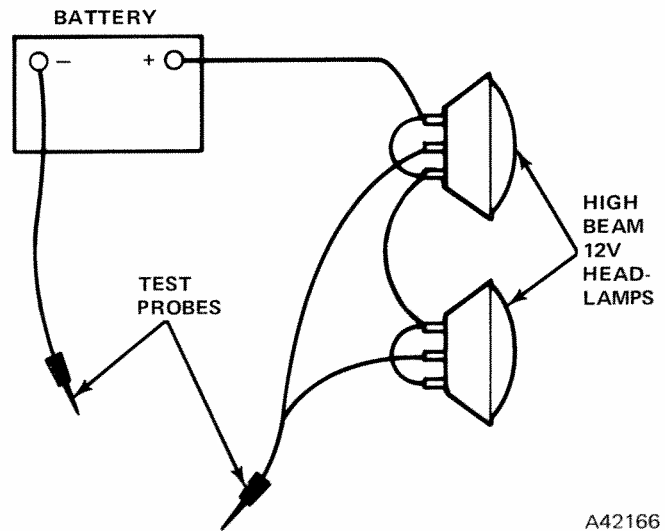
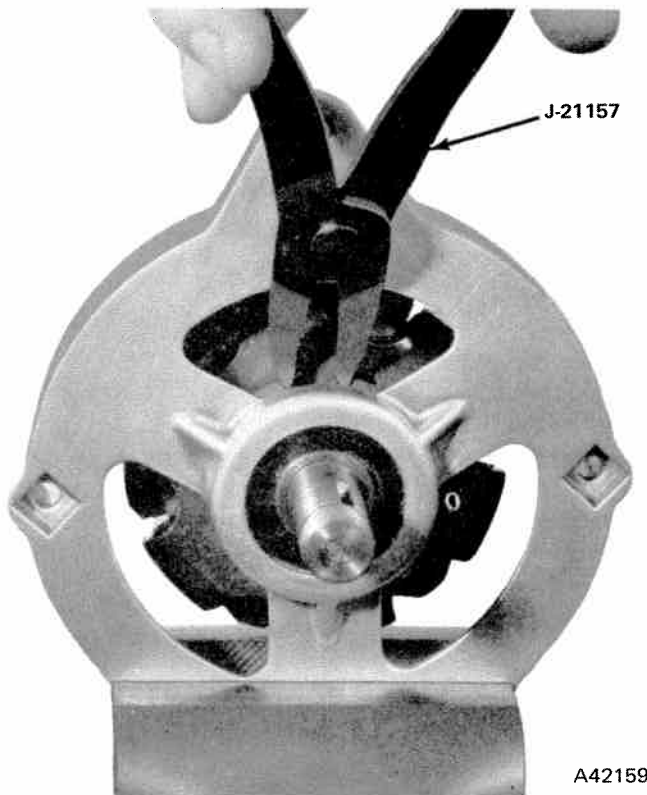

Fig. 3-27 Rectifier Heavy Load Tester
Fig. 3-28 Removing Split Ring Washer
(1) Attach a needle-nose pliers or some other type of heat absorber between diode and diode wire solder joint.
(2) Unsolder wire(s) from each diode. Use a test apparatus as shown in figure 3-27. This apparatus places about a 15-ampere load on diode.
(3) Attach tester to a fully charged 12-volt battery.
(4) Connect one test lead to diode heat sink.
(5) Connect remaining test lead to diode lead (fig. 3-28). Connect test leads so that test lamp lights.
(6) Maintain test load on diode for one to three minutes. If light flickers or goes out, diode is defective.
(7) After one to three minutes with test lamp on, immediately reverse leads. If test lamp lights, diode is defective.
(8) Test each remaining diode in the same manner.
ening in the front housing and compressing the washer while exerting pressure toward the rotor (fig. 3-28). Remove the washer only after the rotor and front bearing have been removed. The rotor and front bearing can be removed from the front housing by tapping the rotor shaft lightly.